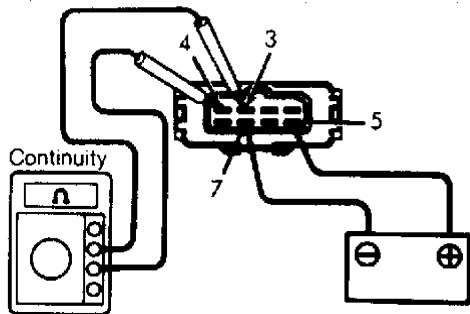

Fig. 10: Blower Speed Control Relay Connector
1) Using an ohmmeter, check that continuity exists across terminals No. 5 and 7. Check that no continuity exists across terminals No. 3 and 4. See Fig. 10.
1) Using an ohmmeter, check that continuity exists across terminals No. 5 and 8. Check that no continuity exists across terminals No. 2 and 3. See Fig. 10.
1) Using an ohmmeter, check that continuity exists across terminals No. 5 and 6. Check that no continuity exists across terminals No. 1 and 3. See Fig. 10.